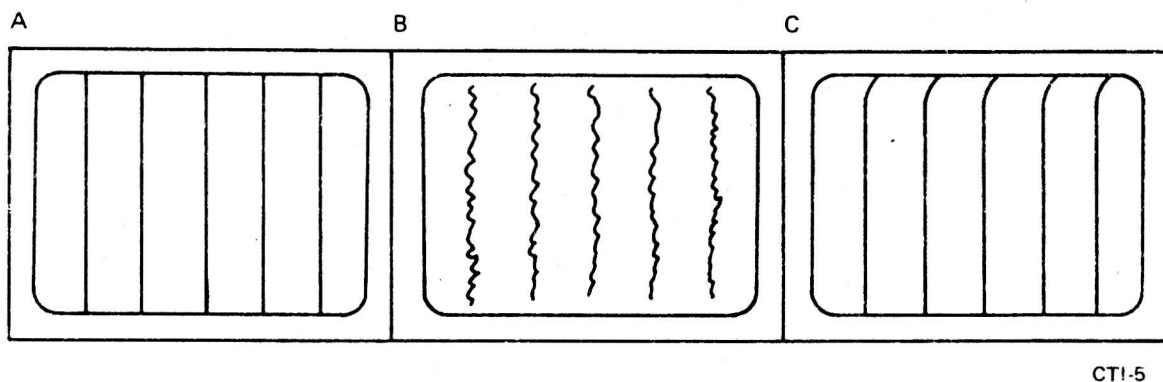

Figure 5.
The TUNE control effectively adjusts the instantaneous head position relative to the position of the moving video tape. The positioning is controlled through control track pulses that are recorded simultaneously with the video signal. In playback, adjusting the TUNE control varies the relative head position. It is adjusted for the best possible picture without tearing at the top or bottom or any other part of the picture. Figure 5 shows a comparison between a normal picture (A) and a distorted picture caused by improper tracking (B).
The FINE TUNE control varies the take-up pull on the tape from the take-up reel in the tape cartridge. It consequently results in varying tape stretch. This effect is especially noted at the top of the picture and should be adjusted for the straightest vertical lines (or least look) at the top of the picture. Figure 5(c) illustrates the distortion caused by improper tensioning.